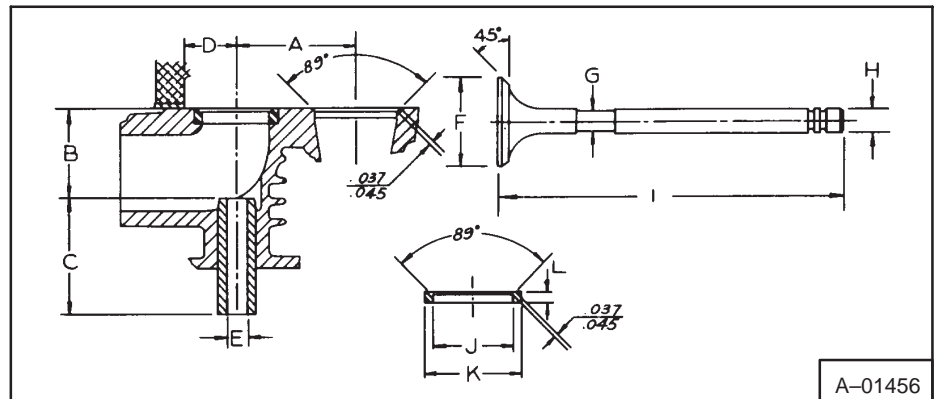

Fig. 137 Valves, Seats and Guides
6. Valves, Seats and Guides (Fig. 137):